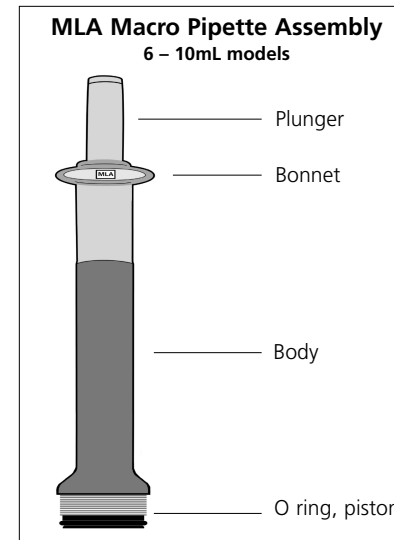

Figure 1: Calibration
- Insert the key into the plunger. (See Figure 1.)